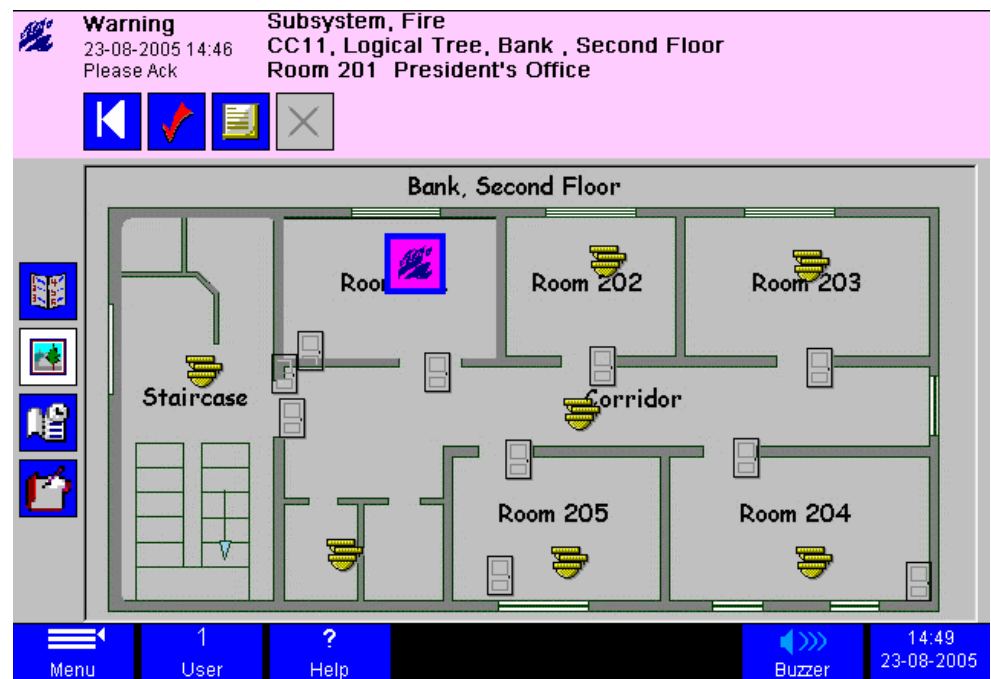

Fig. 8 Event treatment: graphic tool
- Showing the dynamic graphic map associated to the source of the event (Fig. 8).